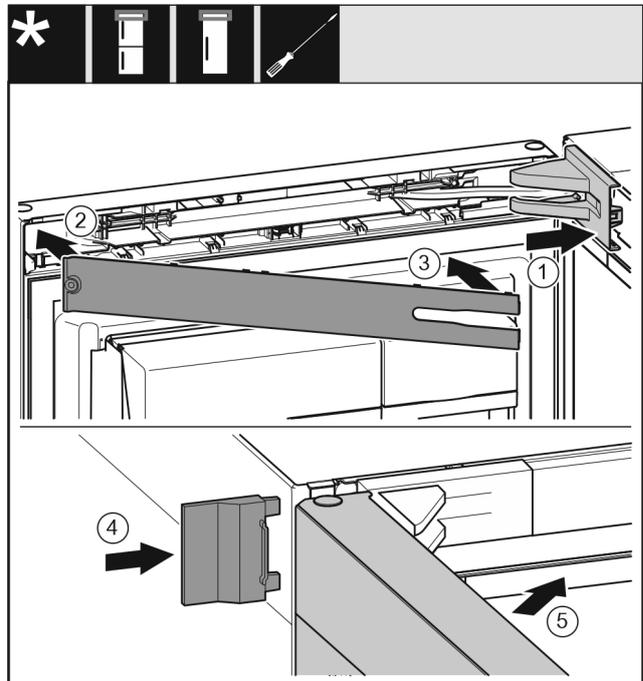

Fig. 27
- ▶ Position the bearing bracket cover and latch it in place. If necessary push it apart carefully. *Fig. 27 (1)*
- ▶ Position the panel. *Fig. 27 (2)*
- ▶ Swing in the panel and latch it into place. *Fig. 27 (3)*
- ▶ Slide on the outer cover. *Fig. 27 (4)*
- ▶ Close the upper door. *Fig. 27 (5)*